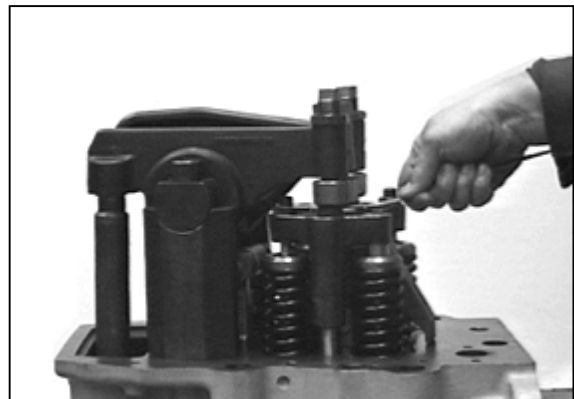

Fig.3 Check the clearances.
1. Check the clearance between the rocker lever and the bridge piece for each pair of valves (**Fig.3**) and adjust as necessary.